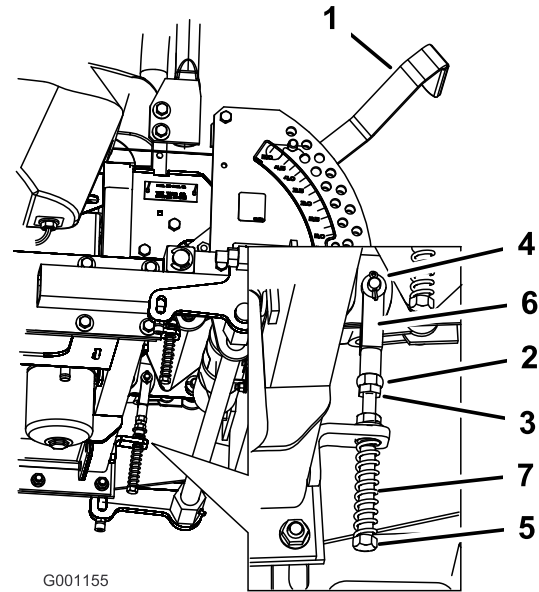

Figure 77
8. If adjustment is needed, loosen the nut and jam nut against the yoke (Figure 77).
9. Apply slight rearward pressure on the motion control lever, turn the head of the adjustment bolt in the appropriate direction until the control lever is centered in the neutral-lock position (Figure 77).
10. Tighten the nut and jam nut (Figure 77).